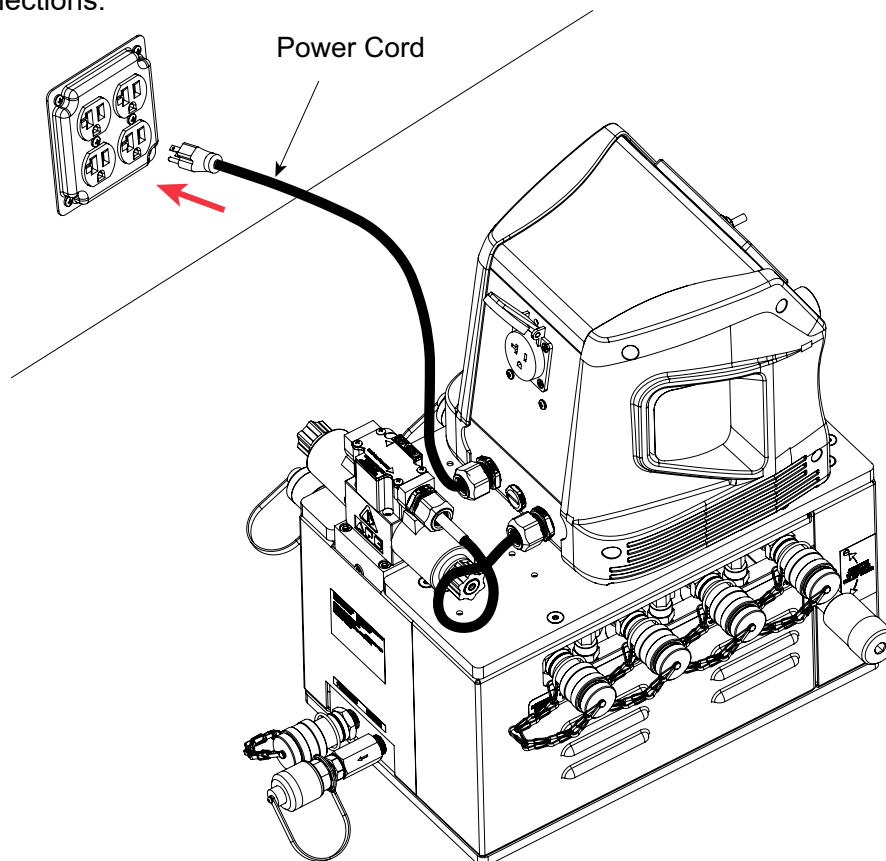

Fig. 9: eSync Electrical Connection
- C. Locate the power cord of the eSync unit. It should have a plug at the end that matches the electrical outlet you will be using (see figure 9).